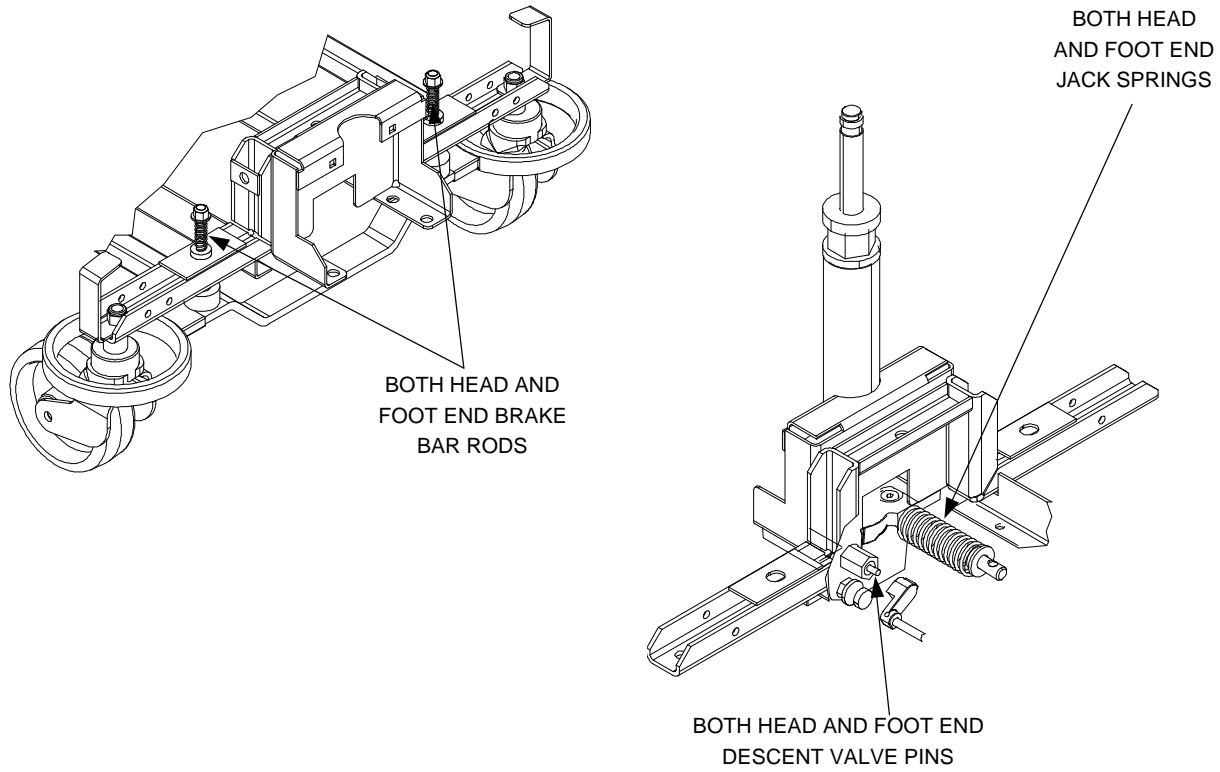

Figure 2.2
- ___ Lubricate where required (see figure 2.2, next page).